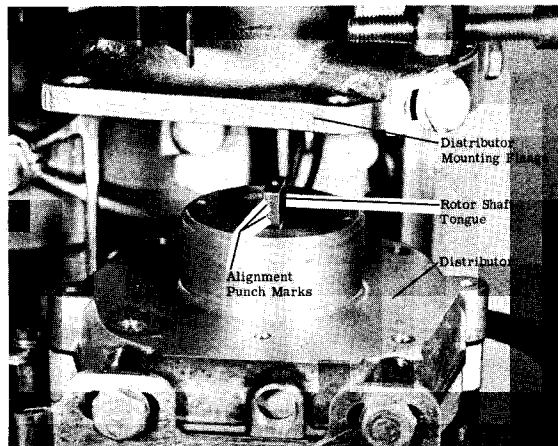

Figure 2. Timing Mark on Offset Tang Face
3. The offset face of the tang is considered the timing mark. (Figure 2)